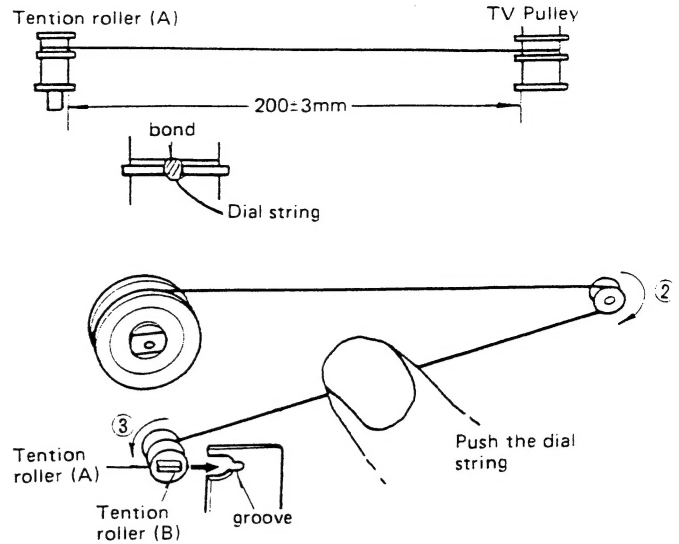

Fig. 9
2. Follow steps ① to ③ for correct stringing.
3. Wind the dial string to the tention roller (A) several turns, then turn the tention roller (B) counterclockwise seven times for getting appropriate tention.
4. Fix the dial string on the Tention roller (A) and TV pulley with bond.
5. Insert the tention roller (B) to groove on the TV bracket as shown in Fig. 9.